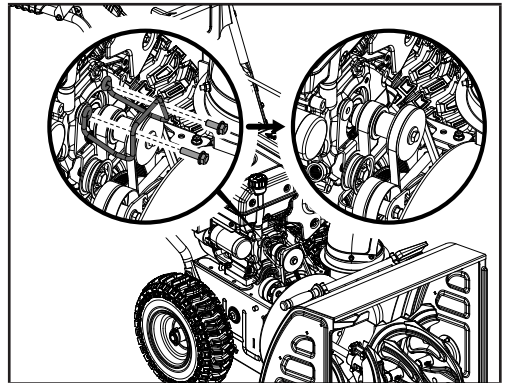

Figure 25
3. Remove the 2 bolts (20 mm/30 mm) holding the belt guard (Fig. 25). Note the spring is loose at this point.